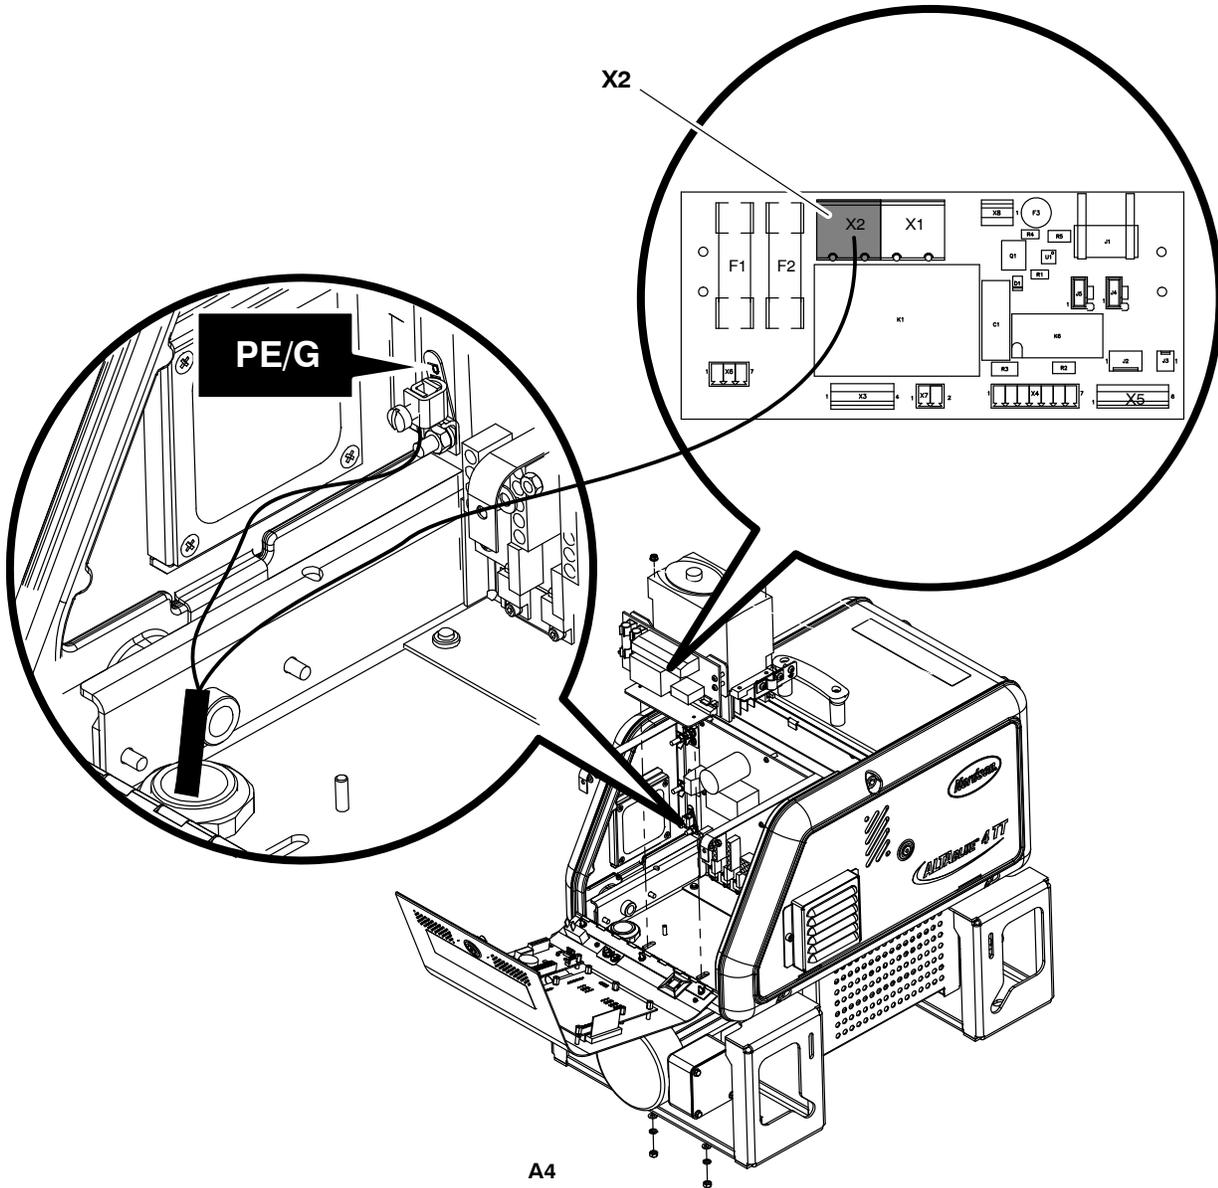
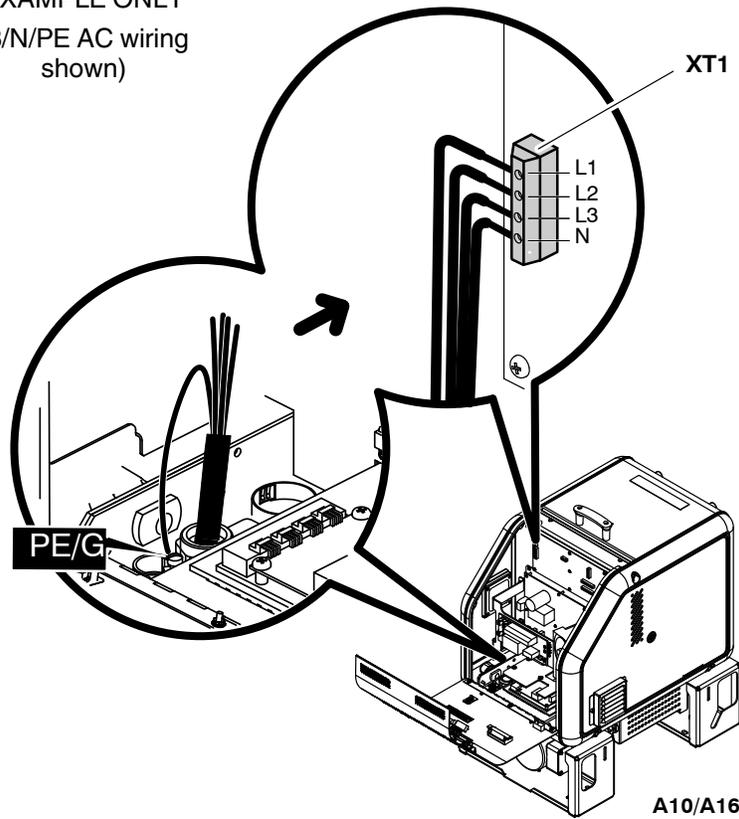

Figure 3-5 Connecting the power cable and ground lead on A4 melters with a relay board
Figure 3-6 Connecting the power cable and ground lead on A10/A16 melters
See Figures 3-5 for A4 melters or Figure 3-6 for A10/A16 melters.
4. **A4 melters:** Connect each power cable lead to the terminal block shown in Figure 3-5 for melters with a relay board.
**A10/A16 melters:** Connect each power cable lead to terminal block XT1, as shown in Figure 3-6. Table 3-3 lists the terminals that are used for each of the electrical service types that are compatible with the melter.